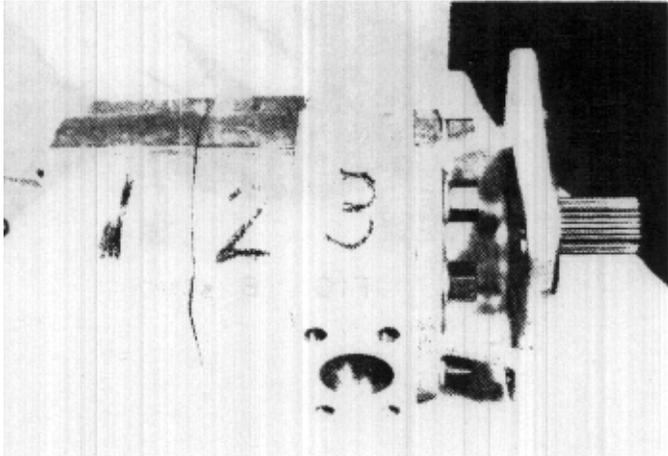

FIGURE 44
2. Mark the Pump sections on the side nearest to the drive shaft extension so that they can be reassembled back to the original relationship. (Figure 44)